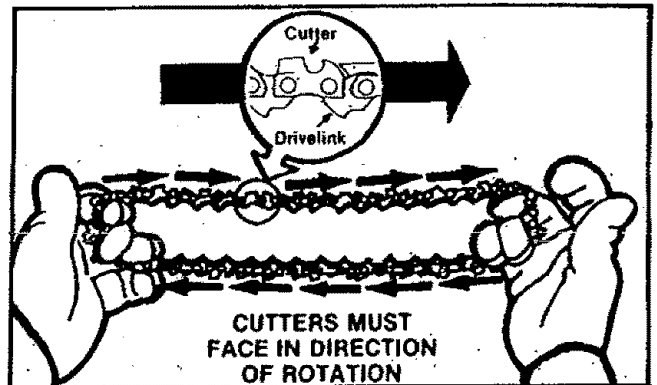

Figure 10
5. Hold chain with cutters facing as shown in Figures 10 and 12.